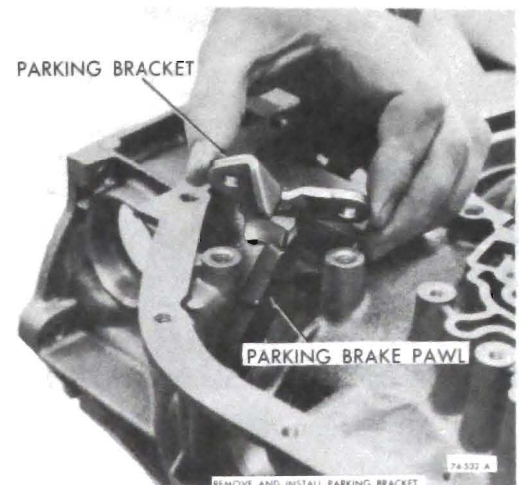

Figure 76-531
f. Remove attaching bolts and parking lock bracket. See Figure 76-531.